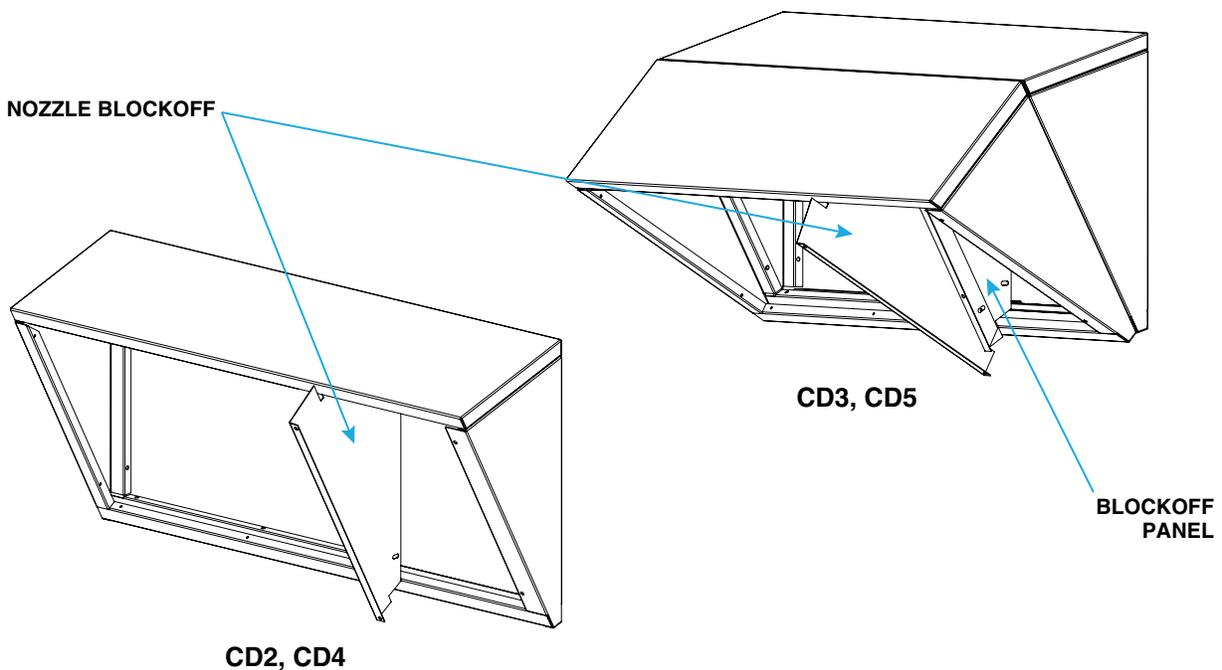

Figure 1. Downturn Nozzle Assemblies
1. Assemble downturn nozzle assembly (see Figure 1) as follows:
7. Install nozzle blockoff (see **Figure 1**) and secure to face plate using screws from kit.
10. If installing option CD3 or CD5, secure blockoff panel (see **Figure 1**) to nozzle blockoff installed in step 7.